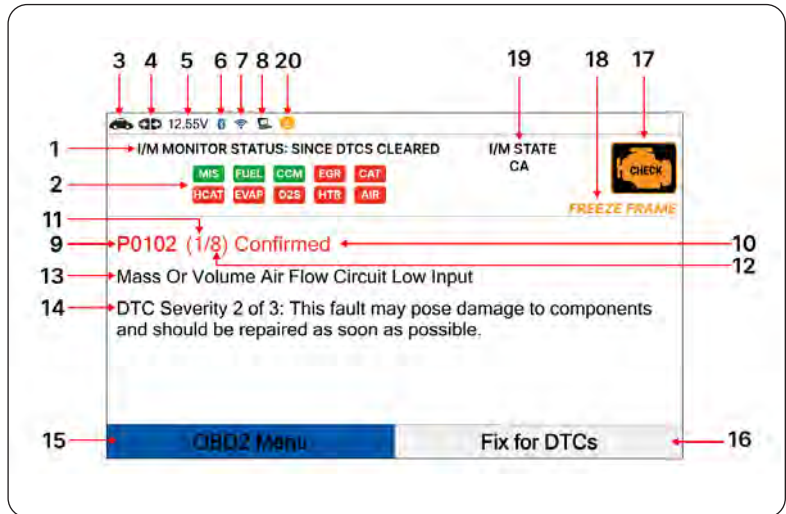

Figure 2. Tablet Display Functions
See Figure 2 for the locations of items 1 through 20 below.